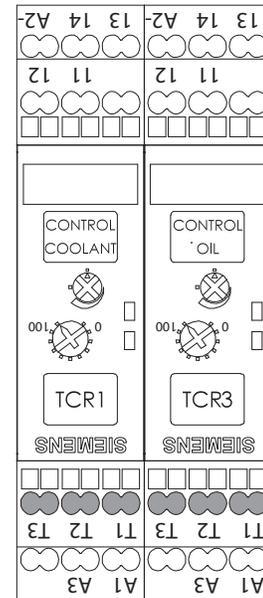

Figure 7. Coolant (TCR1) and oil (TCR3) control TCR showing terminals T1 (blue wire), T2 (brown wire) and T3 (black wire).
2. Using the ohmmeter, measure the resistance between TCR terminals **T1** and **T2**. See Fig. 7.